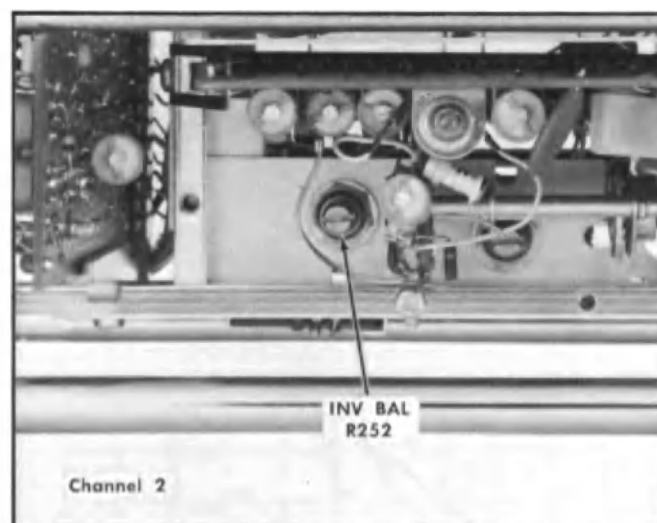

Fig. 7-15. Location of Channel 2 INV BAL adjustment.
- g. ADJUST—Channel 2 INV BAL control (see Fig. 7-15) to vertically position the trace to the point noted in step c.